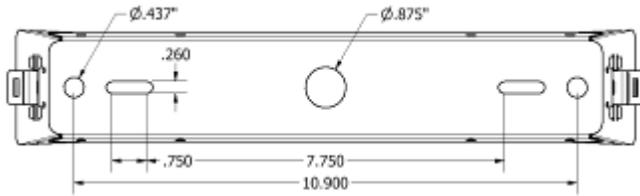
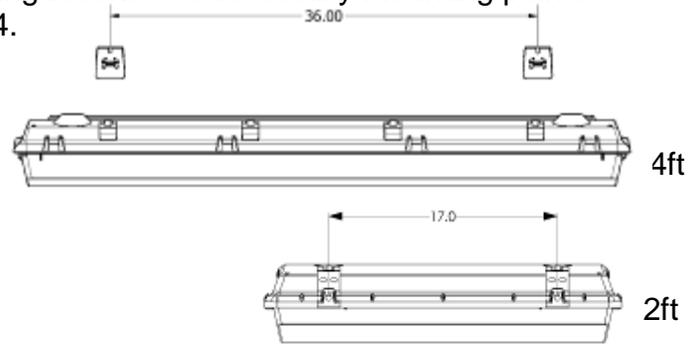

Figure 3
Figure 4
1. See Figure 3 for RMK Detail. Install the RMK mounting brackets to the facility mounting points 36.0" (L48) or 17.0" (L24) apart as shown in Figure 4.